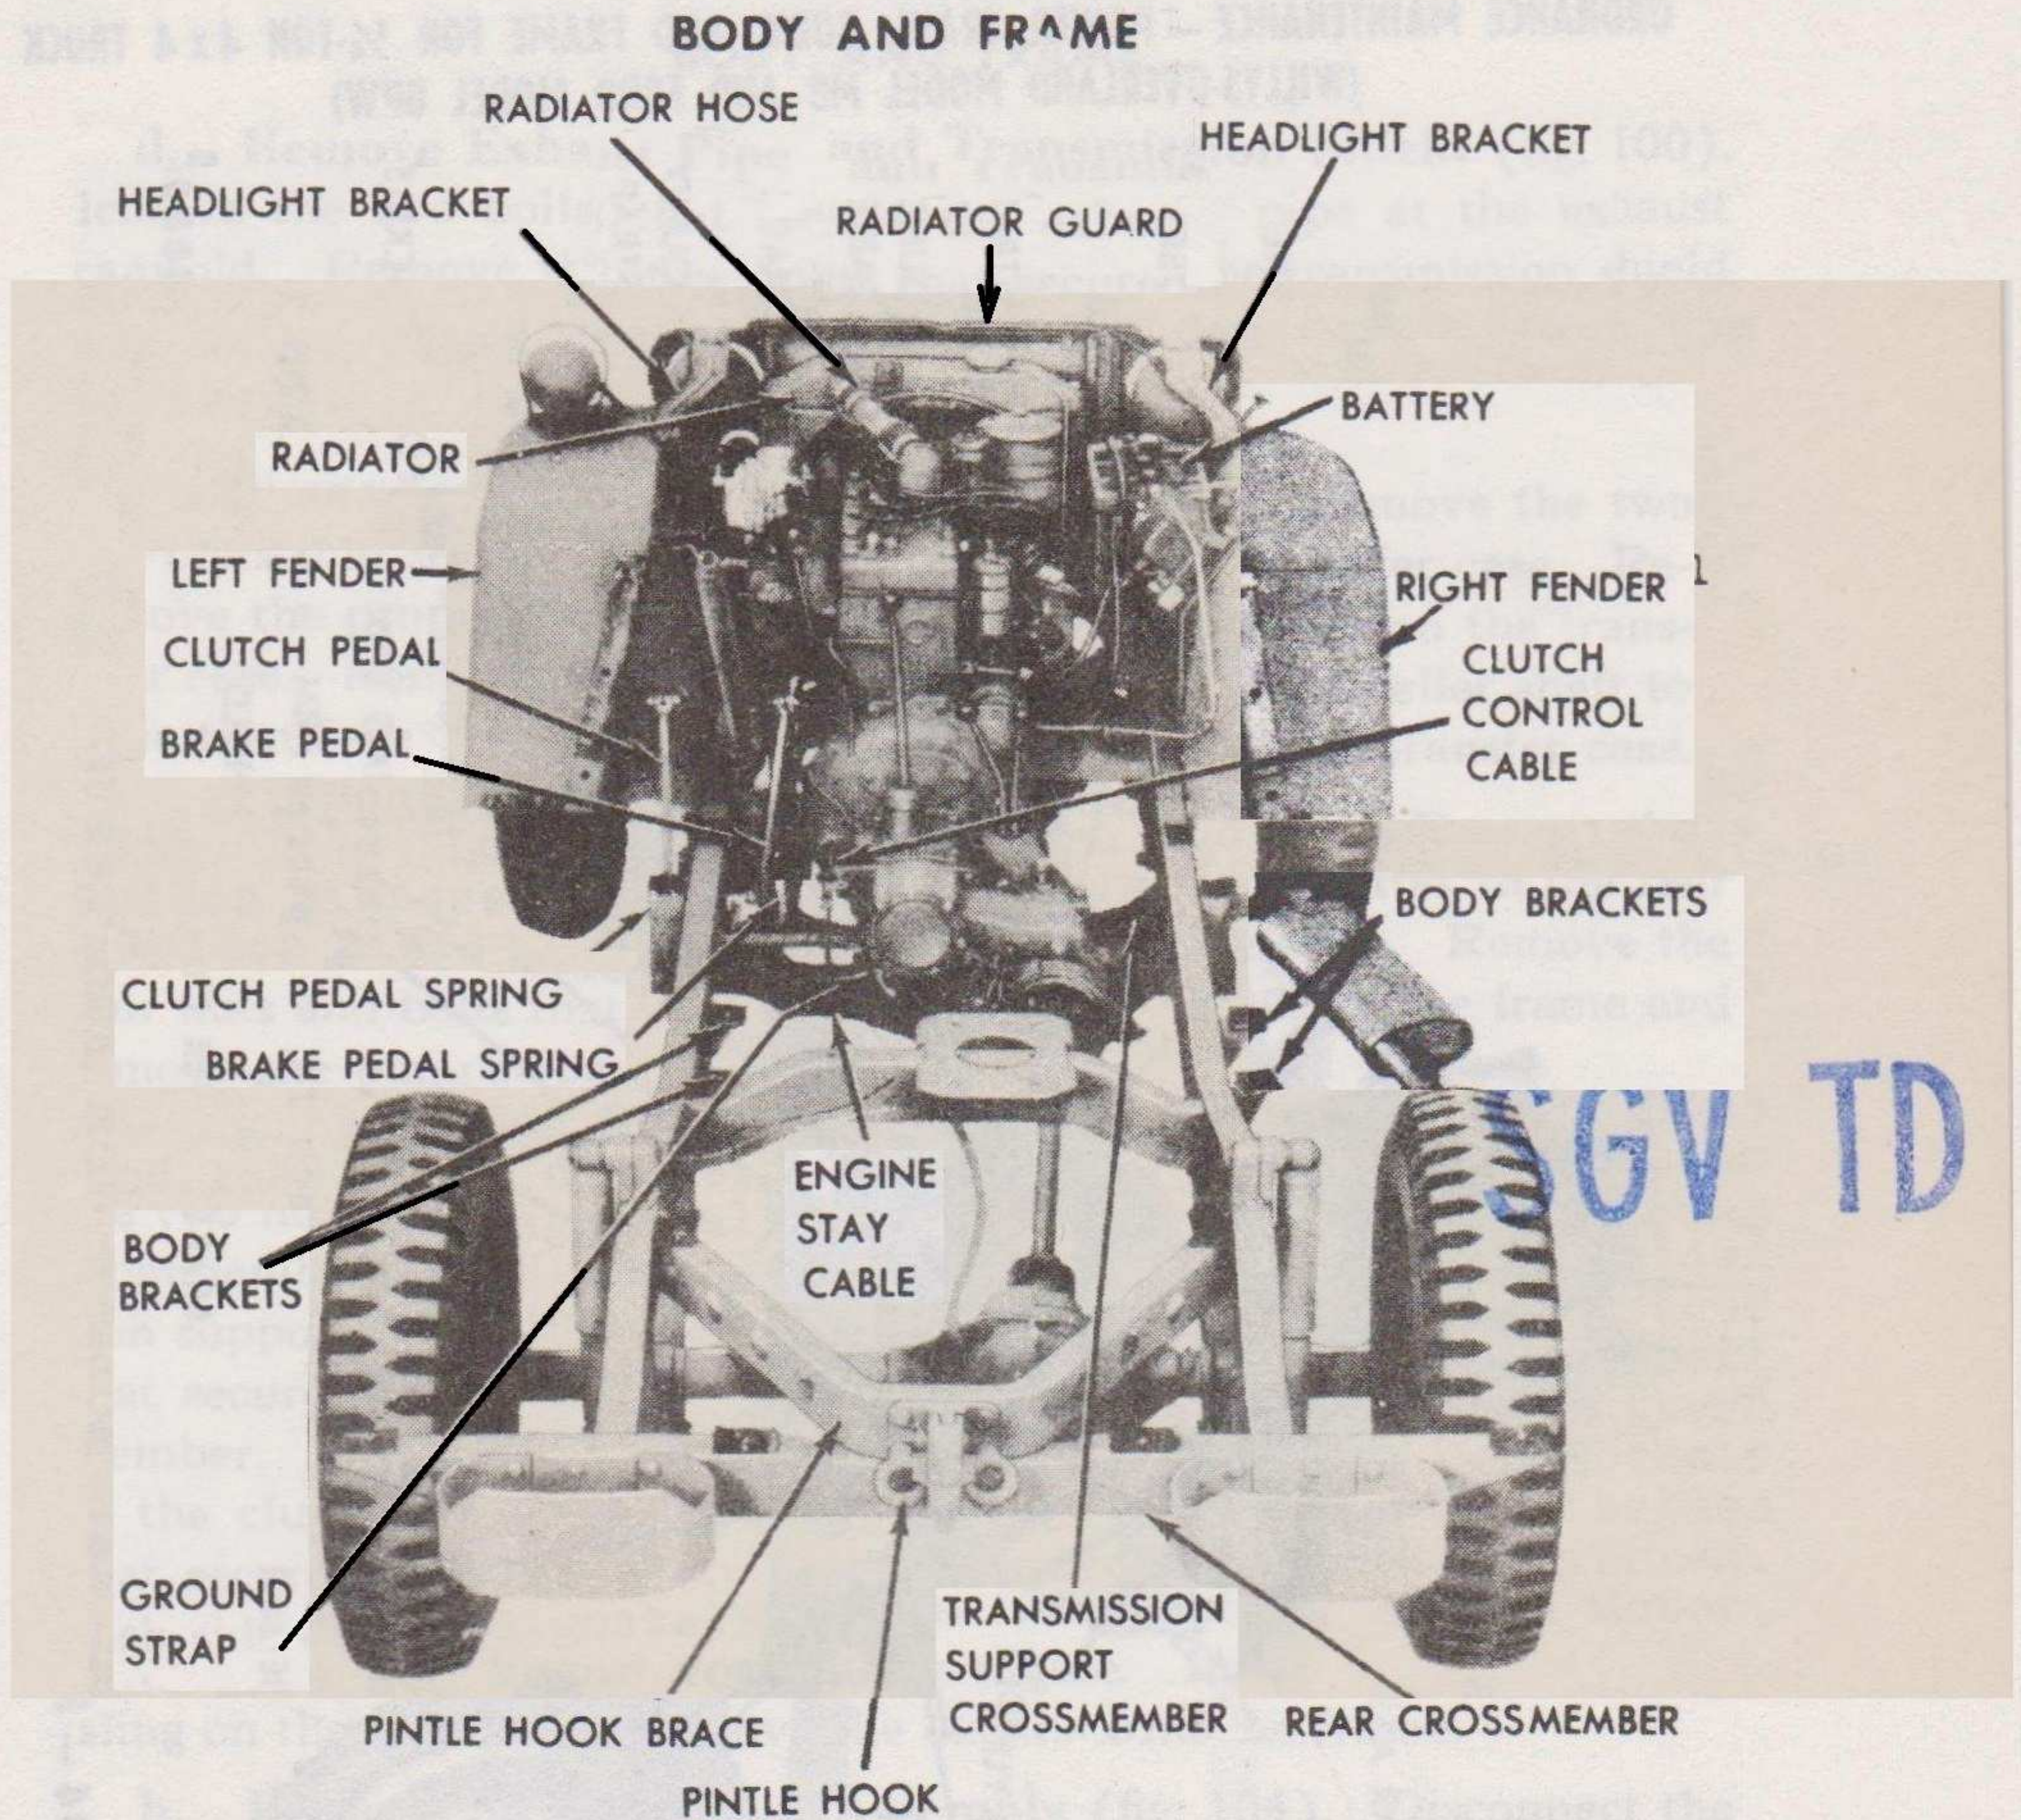

Figure 103 – Chassis
c. Remove Radiator and Radiator Guard (fig. 103). Drain the coolant from the radiator. Disconnect the hose connections at the top and bottom of the radiator. Remove the two bolts that secure the radiator to the frame front crossmember and remove the radiator. Remove the three nuts that secure the radiator guard to the frame front crossmember and remove the radiator guard.
g. Remove Engine From Vehicle (figs. 103 and 104). Remove the two nuts that secure the transmission to the transmission support crossmember. Remove the ground strap leading from the transmission support crossmember to the transmission. Remove the two nuts that secure the engine stay cable to the transmission support crossmember. Remove the clevis pin that secures the clutch control cable to the clutch release shaft. Remove the two nuts and cap screws that secure the engine mounting to the engine support brackets on each side of the frame. Remove the two ground straps leading from both engine support brackets to the engine. Install a suitable lifting sling on the engine and remove the engine from the frame.
i. Remove Clutch and Brake Levers (fig. 103). Remove the cotter pin from the clutch and brake pedal shaft at the clutch end of the shaft. Remove the nut and bolt that secure the clutch pedal to the shaft. Remove the clutch pedal and Woodruff key from the shaft. Remove the clutch and brake pedal return springs leading from the pedals to the transmission support crossmember. Remove the two cap screws that secure the master cylinder tie bar to the brake master cylinder. Remove the clutch and brake pedal shaft with the brake pedal and the clutch release shaft from the frame as a unit.
e. **Install Clutch and Brake Pedals** (fig. 103). Install the clutch and brake shaft with brake pedal and clutch release shaft onto the frame. Install the two cap screws that secure the master cylinder tie bar to the master cylinder. Insert the brake pedal rod in the master cylinder. Install the clutch and brake return springs leading from the clutch and brake pedals to the transmission support crossmember. Install the Woodruff key on the clutch and brake pedal shaft. Slide the clutch pedal on the clutch shaft. Install the lock bolt that secures the clutch pedal to the shaft and install the cotter pin.
k. Install Radiator and Radiator Guard (fig. 103). Place the insulators on the radiator brackets on the frame. Place the radiator in position in the brackets on the frame. Install the flat washers, ground straps, and flat washers on the two radiator studs. Install the nuts that secure the radiator to the frame. Install the upper and lower radiator hose connections. Install the radiator guard in the bracket in front of the radiator. Install the three nuts and bolts that secure the guard to the frame.